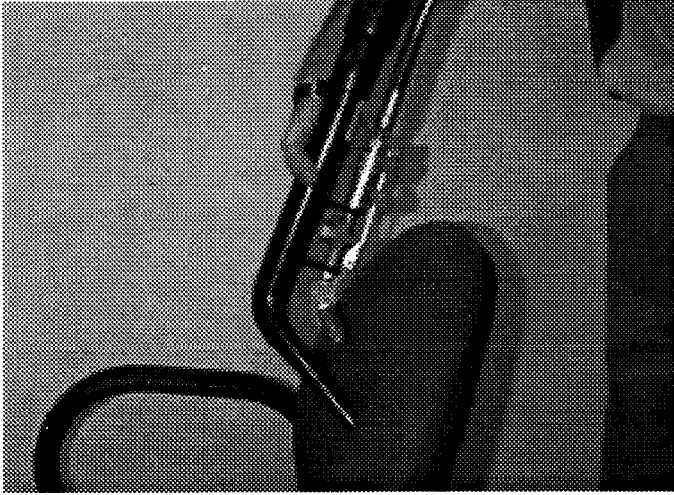

Fig. 7
4. Begin cleaning by squeezing hand tool trigger and pulling tool backwards. (Figure 7)